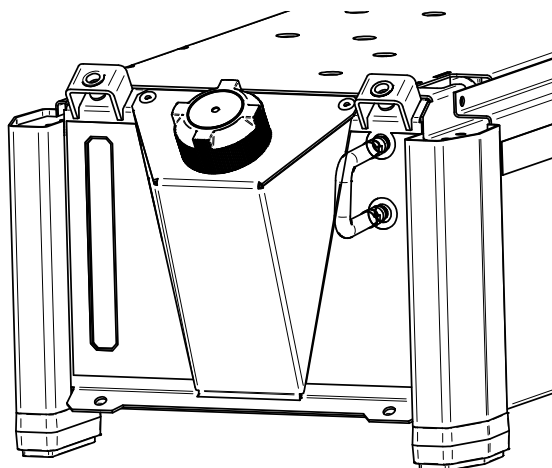

Figure 36
- Connect the hose with quick water connector (added to the equipment) to the cooler's inlet and outlet socket (Figure 36).